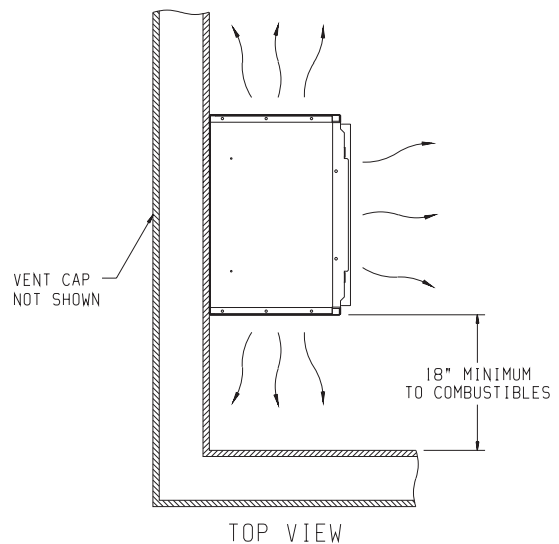

Figure 4
4. The wall in which the furnace is recessed has (0) zero clearance to the furnace sides and top.
8. Floor and rear wall clearance is (0) zero inches.
9. Clearance of 18 inches is required to sidewall or combustible material when flush mounted SOR-1, side outlet register is used. See Figure 4.
Side outlet register, SOR-1 may be installed on one or both sides of the furnace at the required clearances of 18 inches to adjacent wall or combustible material as shown in Figure 4.